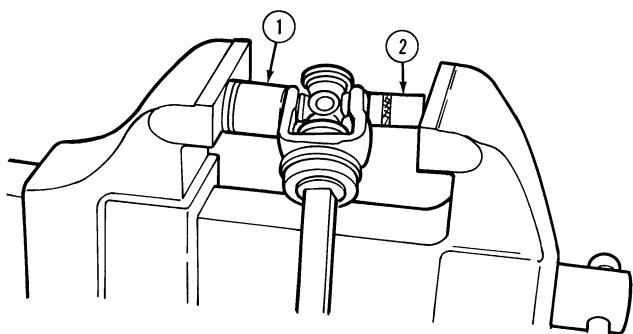

Figure 7
- Place the universal joint in a press or large vise with the larger socket (1), Figure 7, or pipe supporting the yoke and the smaller socket (2), Figure 7, or pipe against the bearing cup.